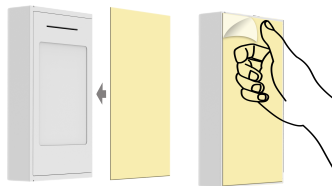

Figure 3
2. Use the provided double-sided tape on the sensor. Attach the sensor to the door. Press firmly and hold in place for a few seconds (Figure 3). Secure it with silicone if needed.